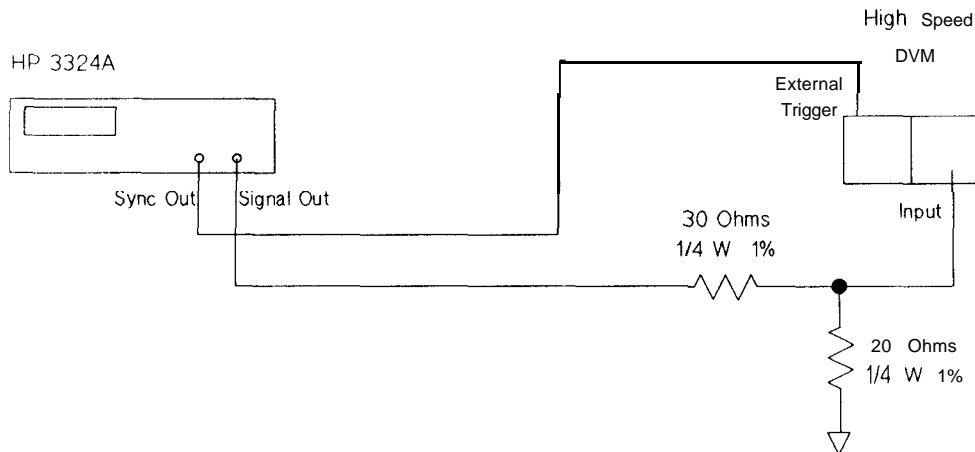

Figure 12-9. Triangle Linearity Test Set-Up
1. Connect the HP 3324A and the high-speed voltmeter through the divider as shown in Figure 12-9.
- Set the voltmeter delay to 0.00003 (seconds). Record the voltmeter reading on the Performance Test Record under **Positive Slope Measurement**, (10%) y_1 . This is the 10% point on the positive slope of the triangle (see Figure 12-9).
6. The reset portion should show more than one line, as in Figure 12-9. The lines should not be separated by more than five divisions on the display.